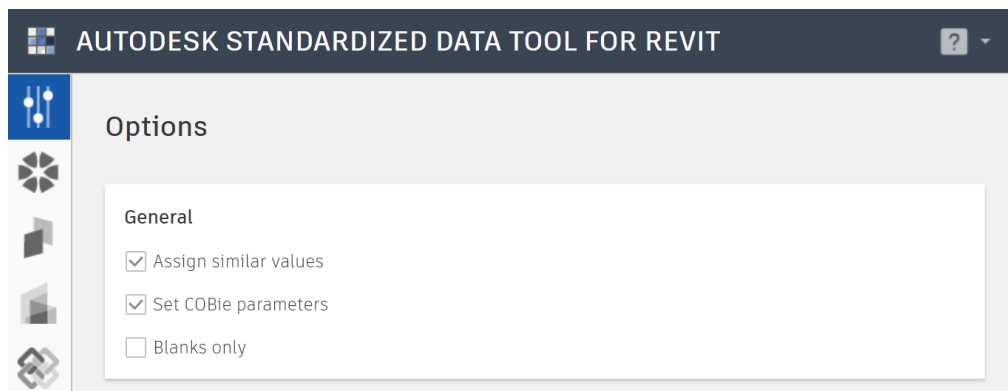

Figure 2 - Standardised Data Tool Options Menu (v 9.0.8119.0)
*Note 3:* Make sure *Set COBie Parameters* is ticked via *Options* per Figure 2 below – this will apply the classification code & description to COBie.Type.Category.